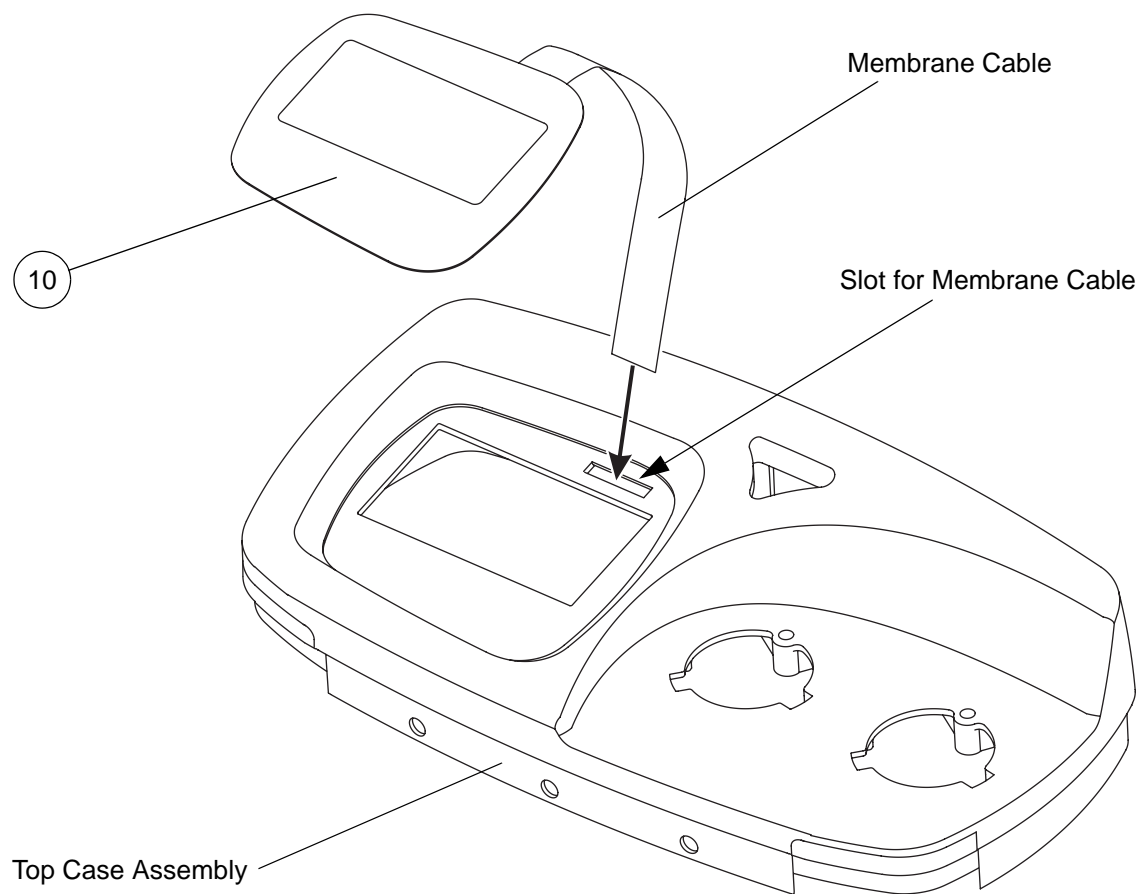

Figure 54 - Replacing the Membrane Label when the Control PCB Assembly has been removed from the Top Case Assembly
- 30.4 Remove the self-adhesive membrane label (Fig 54, Item 10) from the top case assembly, and withdraw the membrane cable out through the slot in the top case assembly.
- 30.6 Remove the backing paper from the new self-adhesive membrane label (Fig 54, Item 10).
- 30.7 Make sure the orientation of the membrane label is correct and pass the end of the membrane cable through the slot in the top case assembly (refer to Figure 54).